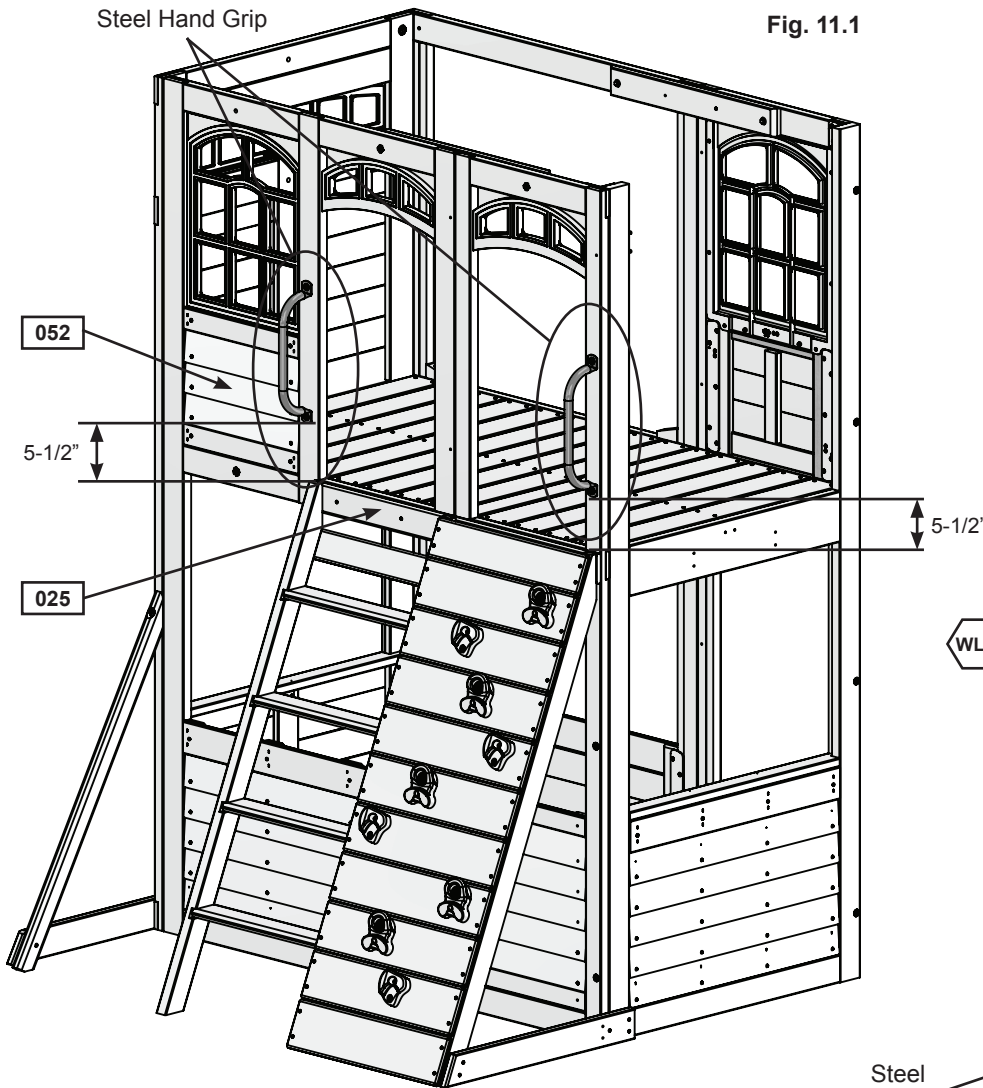

Fig. 11.1
A: Measure 5-1/2" from the top of (025) RW-AL Support and on (052) Back Wall Panel in the 2 places shown below, pre-drill with a 1/8" drill bit making sure holes are centred then attach 2 Steel Hand Grips with 2 (WL3) 1/4 x 1-3/8" Wafer Lag (with flat washer) per Steel Hand Grip. (fig. 11.1 and 11.2)